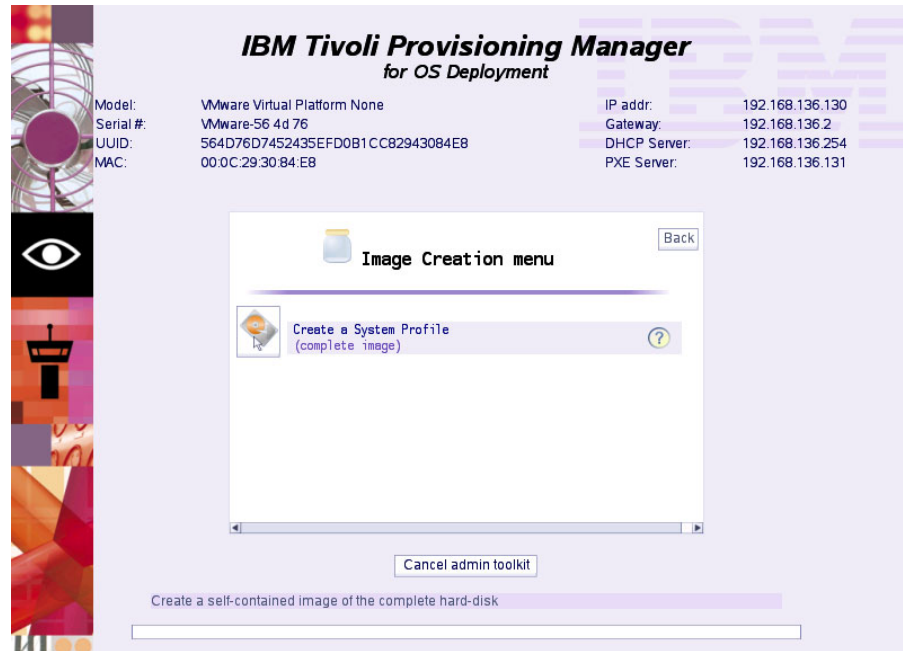

Figure 3-9 Selecting create a system profile
5. Next, select **“Create a System Profile”** as shown in Figure 3-9 on page 63.